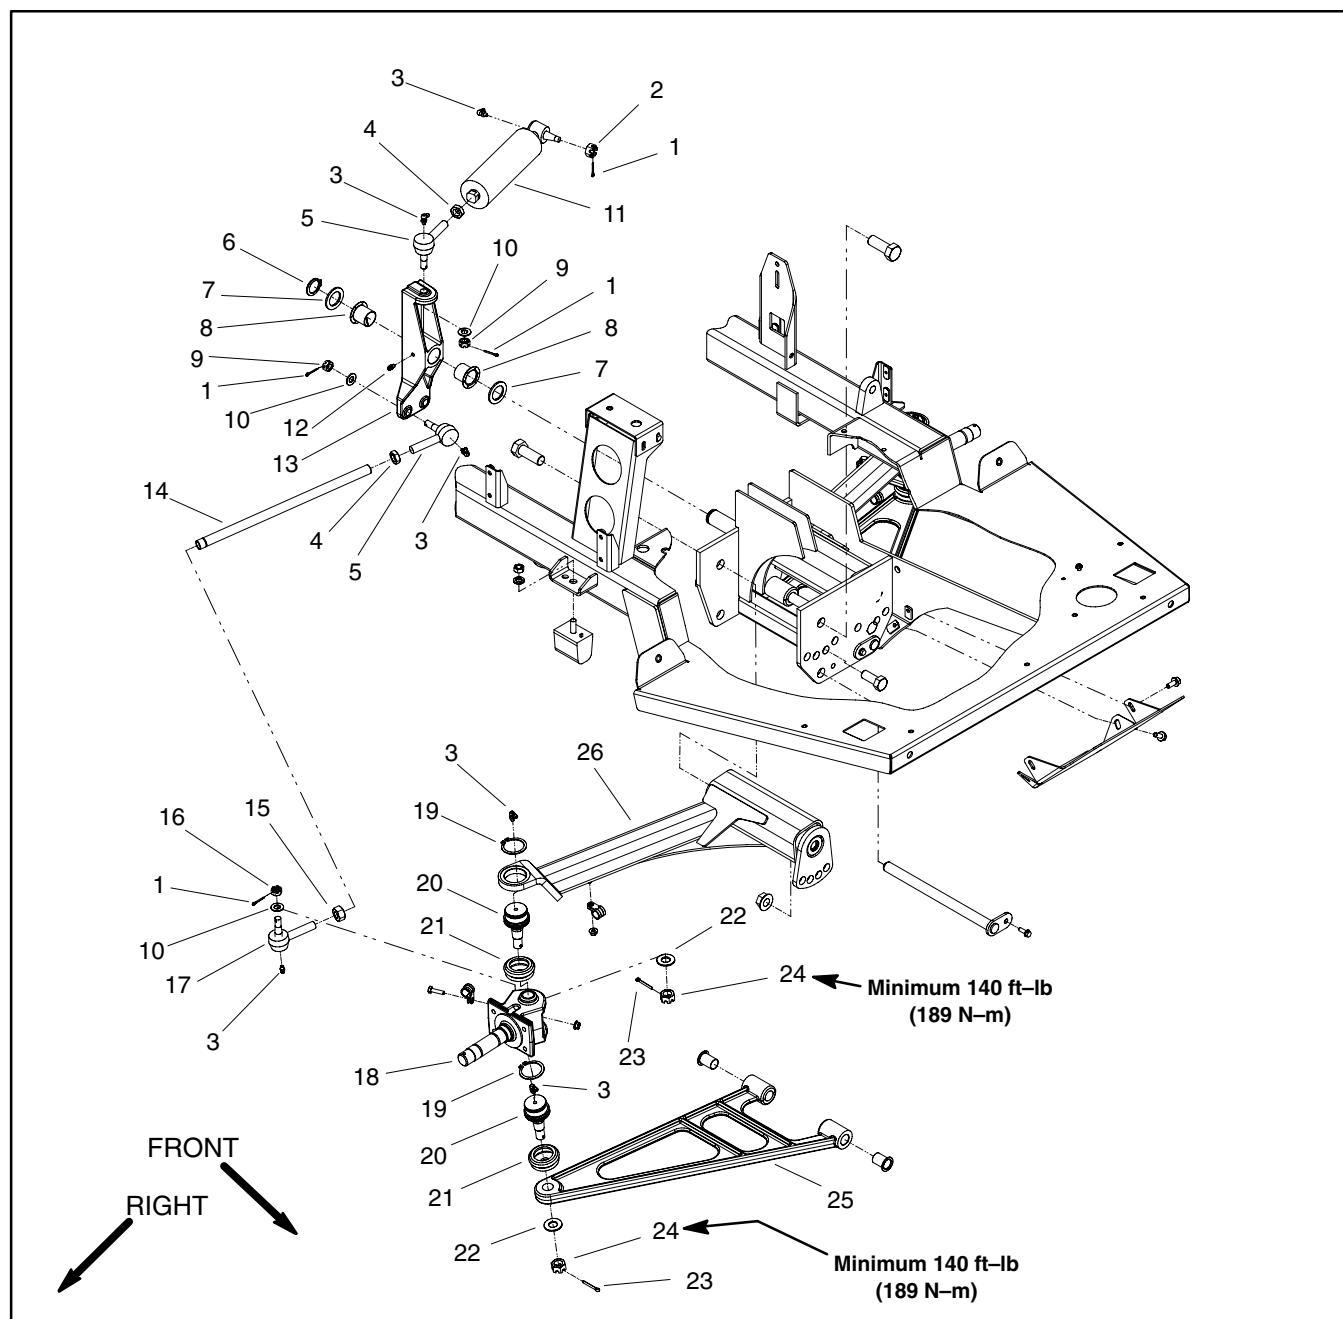

Figure 15
Disassembly (Fig. 15)
6. Disassemble steering components as needed using Figure 15 as a guide.
Assembly (Fig. 15)
1. Assemble steering components using Figure 15 as a guide.